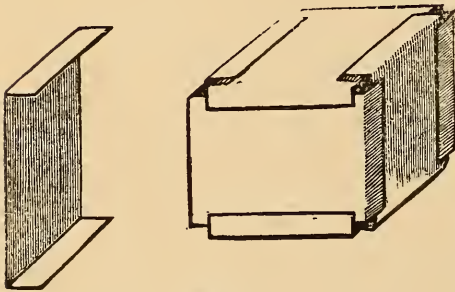

Fig. 4.
(5) *The Puzzle Box.*—Take six visiting-cards and bend them as in Fig. 4. The puzzle is to put them together in the form of a box, making them fasten each other. The box will bear rough usage. This is done by fitting the cards together as in Fig. 4, when they will be found to fasten each other.